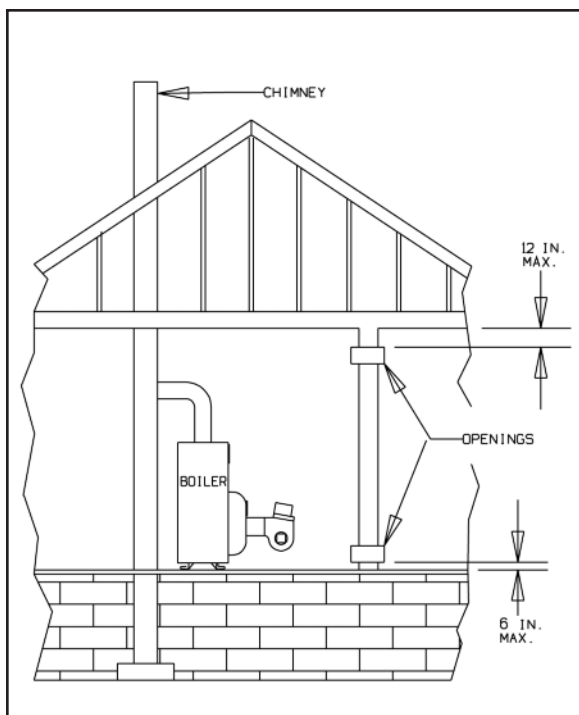
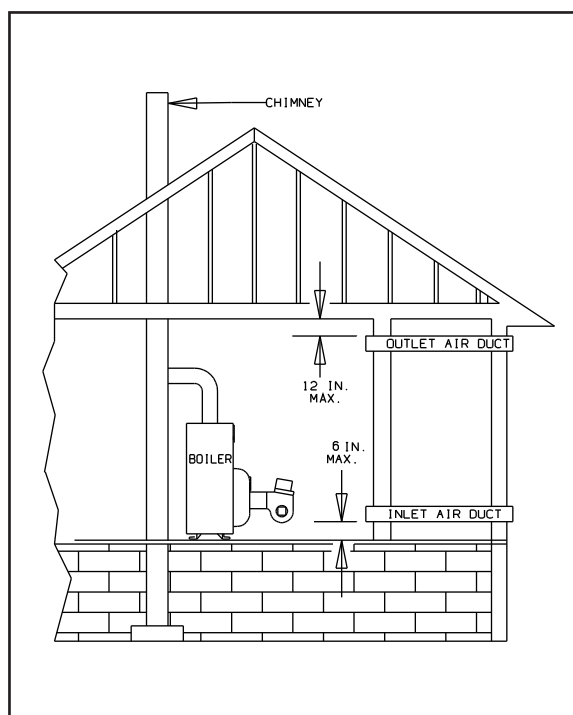

Figure 3a.
Figure 3b.
| 2.3 | Confined space | If there is sufficient air for combustion from within building but it comes from outside of the confined space, see "ACTION REQUIRED" column at right. See Note (1) below. | The confined space shall be provided with two permanent air openings, one near the top of the enclosure and one near the bottom. EACH opening shall have a free air opening of not less than 1 sq. in. per 1000 Btu/hr. of TOTAL input of ALL fuel burning appliances within the enclosure. The two openings shall freely communicate with the interior areas of the building which in turn would have to have adequate infiltration of air from outdoors. See Notes (1, 3) and Figure 3a. |
| 2.4 | Confined space | If there is NOT sufficient air for combustion due to tight construction or other conditions it REQUIRES AIR FROM OUTDOORS . SEE "ACTION REQUIRED" column at right. See NOTE (2) below. | <p>(a) Air from the outdoors shall be provided to the confined space by two permanent openings, one in or near the top of the enclosure space and one in or near the bottom. The openings shall communicate directly, or by means of ducts, with outdoors or to such spaces (crawl or attic) that freely communicate with outdoors (See figures 3b, 3c and 3d).</p> <p>(b) Where directly communicating with outdoors or by means of vertical ducts, each opening shall have a free area of not less than 1 sq. in. per 4,000 Btu/hr. (35 sq. in. per gal. per hr.) of total input rating of all appliances in the enclosure. If horizontal ducts are used, each opening shall have a free area of not less than 1 sq. in. per 2,000 Btu/hr. (70 sq. in. per gal. per hr.) of total input of all appliances in the confined space. See Figures 3b, 3c and 3d.</p> |
near chimney, with hinge horizontal and face vertical conditions permitting as in Figure 3a. See Figure 3b as a second choice. See manufacturer's instructions packed in carton with barometric draft regulator.